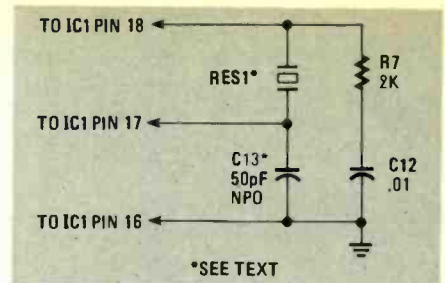
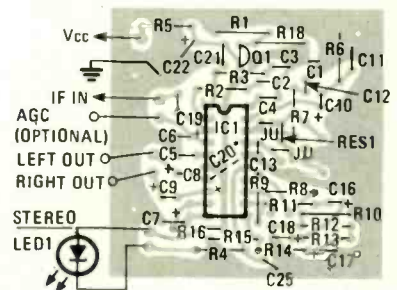

FIG. 6—THE OSCILLATOR CIRCUIT shown here needs an input IF of 450 kHz.
FIG. 7—THE PARTS-PLACEMENT diagram shown here corresponds to the VCO circuit of Fig. 6. Note that C20 is mounted on the foil side of the board.
The requirements of the VCO circuit design are not terribly critical—it must provide a one-volt P-P clean sinewave at 8 times the IF frequency to pin 14 of the MC13020P. One circuit that we can use is shown in Fig. 6. The corresponding parts-placement diagram for the decoder is shown in Fig. 7.
- C13—NPO. See Text and Figs. 6, 8, and 10
The following are available from Circuit Specialists, Box 3047, Scottsdale, AZ 85257: Complete kit, including PC board and all parts (including parts for the VCO circuit as in Fig. 6 only), \$24.95; Circuit board only, \$4.95; Ceramic resonator RES1 with matching NPO capacitor (as in Fig. 6) only, \$3; MC13020P decoder IC, \$3.50. All prices include postage inside the US.